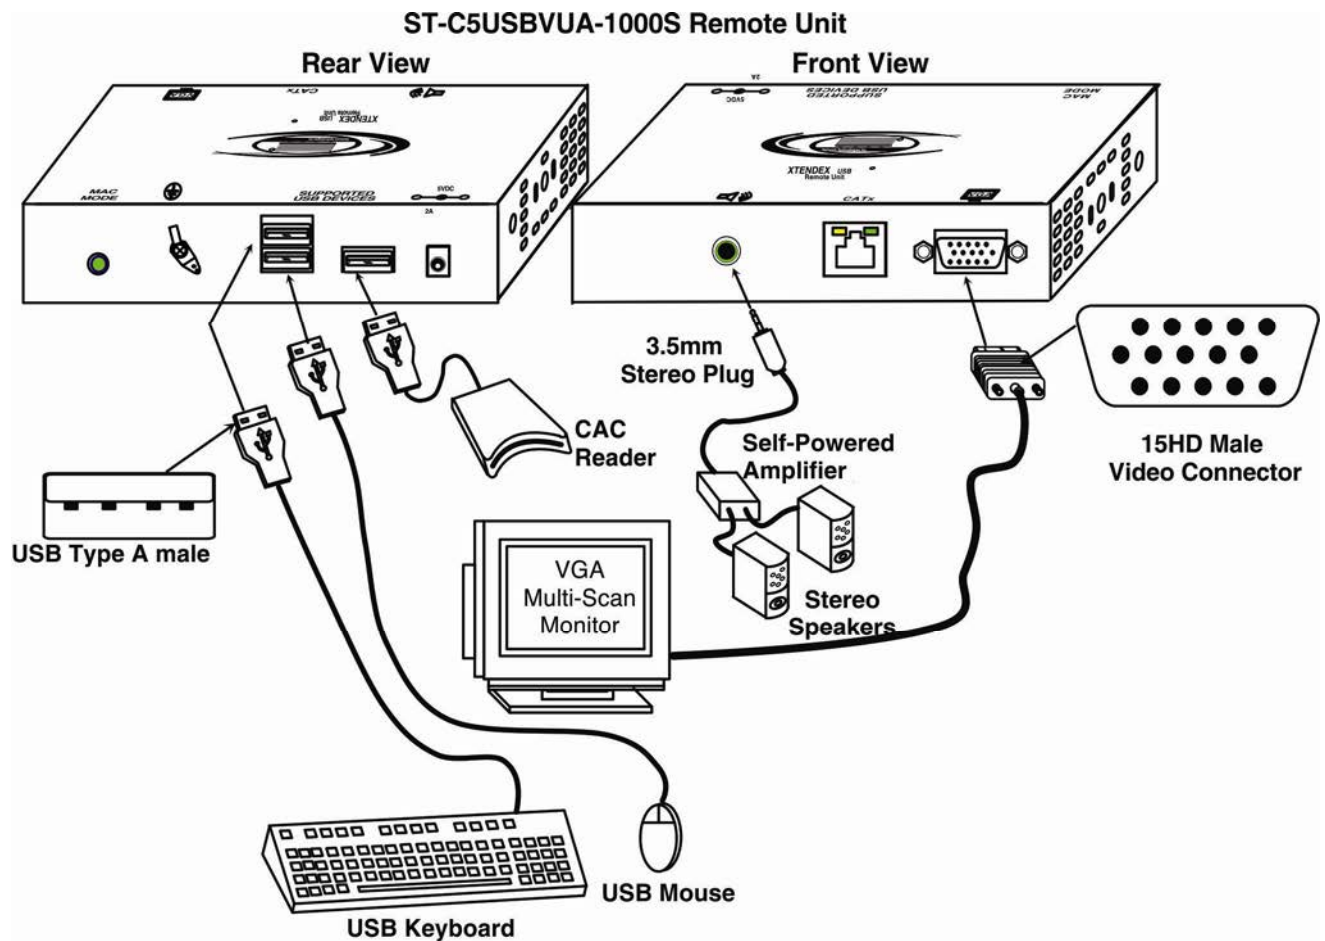

Figure 3- Connect the Monitor and Devices to the Remote Unit
2. Connect the monitor cable to the 15HD female connector on the back of the Remote Unit. (See Fig. 3)
6. Turn ON the monitor, then the CPU. The CPU and monitor should each react as if they were directly connected to each other. The yellow traffic LEDs on the Remote and Local Units (see fig. 3) should blink indicating there is proper communication between them.